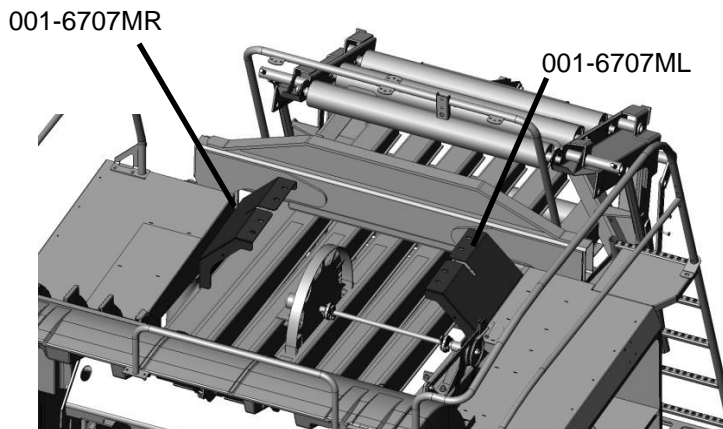

Figure 2
2. Install the two saddle legs (001-6707MR & 001-6707ML) on to the top of the baler chute as shown. Figure 2